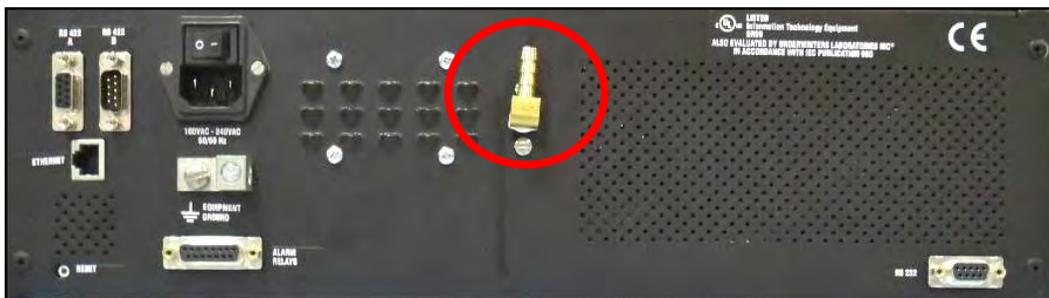

Figure 4. ADH NETCOM REAR PANEL
When connecting an equipment or transmission line to the ADH NETCOM automatic air dehydrator, it is first necessary to install the proper fitting onto the port on the back of the unit. Refer to Figure 4. As described on the Inventory page of this manual, two types of brass fittings are supplied with the unit. They are not interchangeable. The first type, Part Number 18198, connects a 1/8" NPT to a 1/4" barbed fitting. The second type of fitting, Part Number 23428, connects a 1/8" NPT to a 3/8" barbed fitting. Though not required, it is recommended to use the second type of fitting, the one with the 3/8" barbed fitting, on runs longer than one hundred (100) feet or about 30 meters or when using the NETCOM as an input to an ASM®-1 Smart Manifold™ Automated Air Distribution Manifold. Directions for the proper installation of both types of fittings are the same.